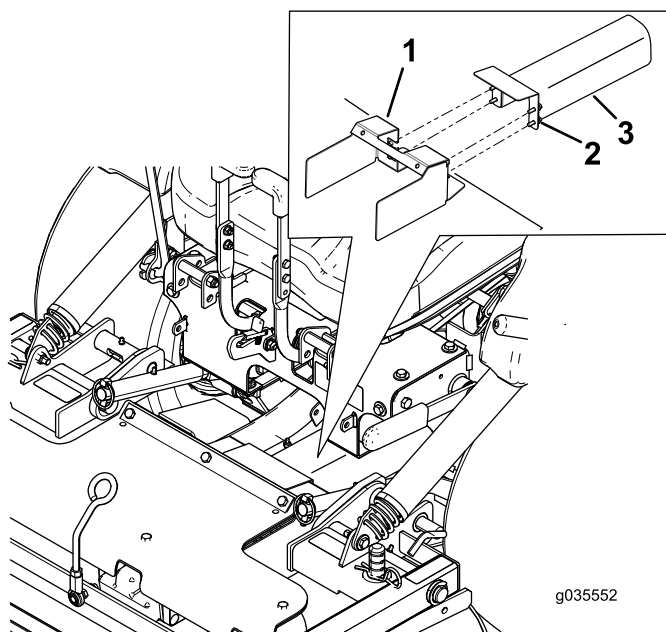

Figure 9
5. Loosen the bolts and remove the metal guards shown in Figure 9.
2. Install the metal guards and bolts as shown in Figure 9.